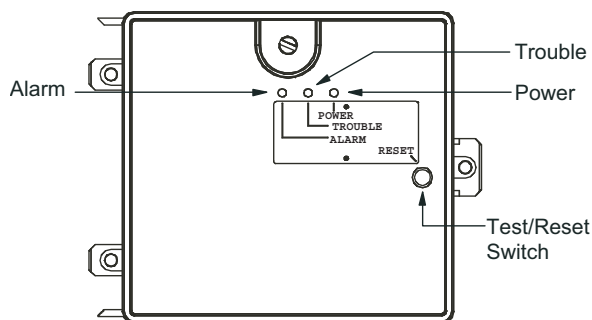

Fig. 44 — Controller Assembly
- The contacts on the controller's supervisory relay switch positions. (See Fig. 44.)